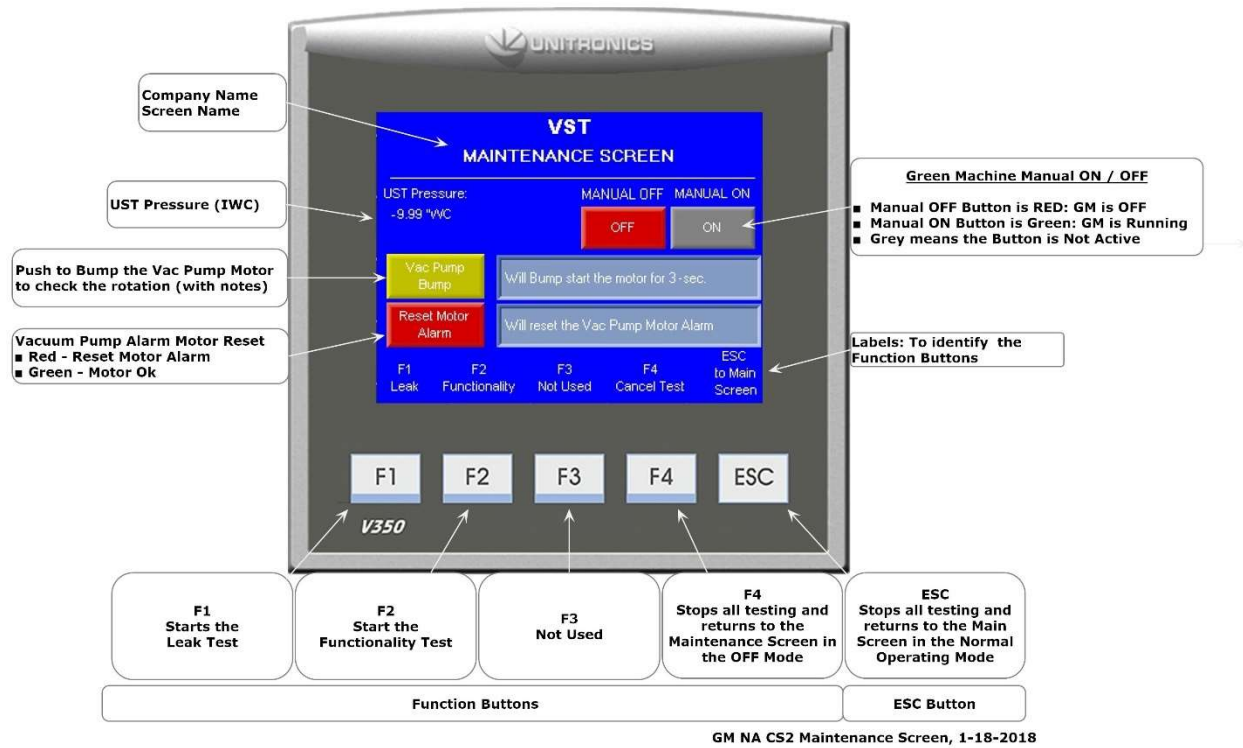

Figure 9-37: Maintenance Screen
3. Make sure the Maintenance Screen is showing on the PLC. **See Figure 9-37.** (The GREEN MACHINE is now in the Manual OFF mode and will not operate.)